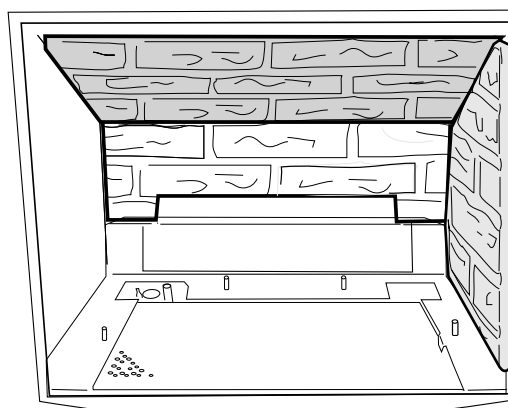

Figure 44 . Install the Upper and Side Panels.
5. Install one of the Side Panels, pushing it up against the firebox wall. Fig. 44
6. Position the Upper Panel. You should seat the Upper Panel down and forward so that no gaps are evident at the panel joints, as in Fig. 44.